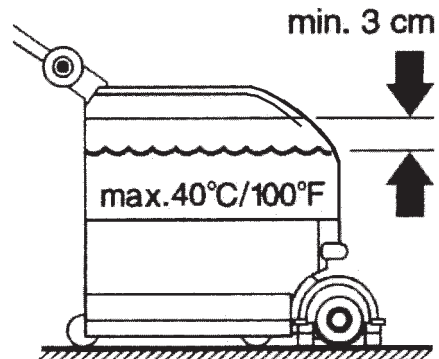

Figure 2
1. Fill the tank (14) with a solution suitable for the work to be performed.
2. Do not fill the solution tank completely, leave a few centimetres from the edge (Fig. 2).